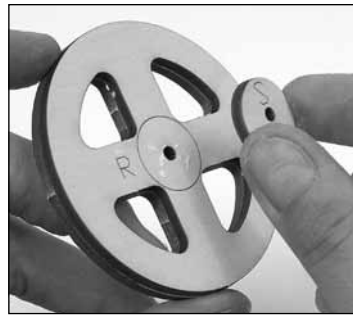

Figure 19
13. Find the Parts S and glue one centered on a side of a wheel (Figure 19). Before the glue dries, insert the axle through the Parts R and S to make sure the center holes are aligned correctly. Repeat for the other three wheels and let them all dry.